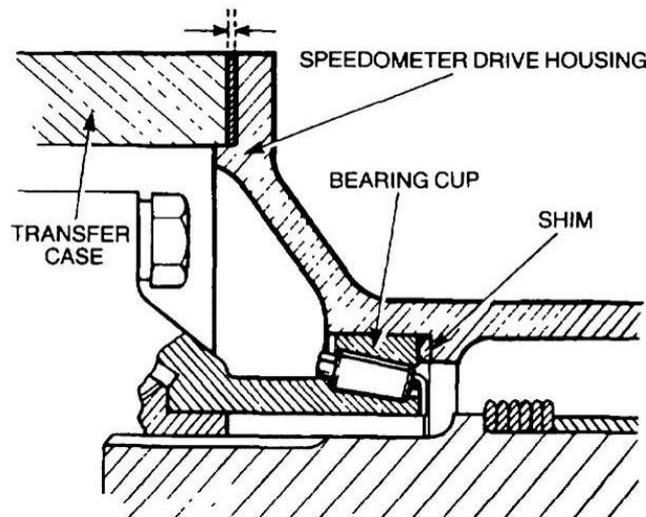

Figure 216 Differential Assembly Pre-load Adjustment - Sectional View
- w. Position the speedometer drive housing, less the gasket, on the transfer case and measure the gap in at least four locations between the housing and transfer case joint faces. The measurement must be 0.1 mm (0.004 in) more than the thickness of the gasket measured in Para 68. u. The gap can be adjusted by replacing the shim installed behind the bearing cup (Figure 216).
- x. Remove the housing and install the selected gasket. Fit the eight bolts and new lock-washers and torque the bolts to 30 N.m (22 lbf.ft). With the differential lock disengaged and no oil seal fitted, the rolling resistance should be 6 to 7 kg (14 to 16 lbs). To obtain the rolling resistance replace the shim with one of the correct thickness (Figure 216).